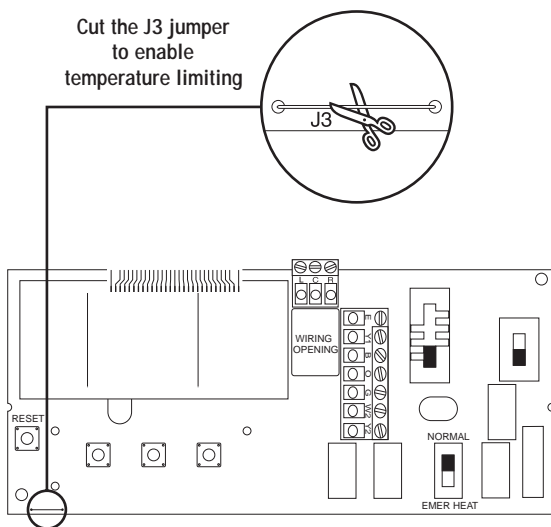

Figure 7
15. A temperature limiting jumper has been included in this thermostat. Cutting this jumper (J3) limits the heating setpoint to no greater than 72°F and the cooling setpoint to no lower than 78°F (Figure 7).
**NOTE: IF THE TEMPERATURE LIMITING JUMPER J3 IS CUT (FIGURE 7), THE DEADBAND IS NOT ADJUSTABLE AND IS AUTOMATICALLY SET TO 6°F (3°C).**